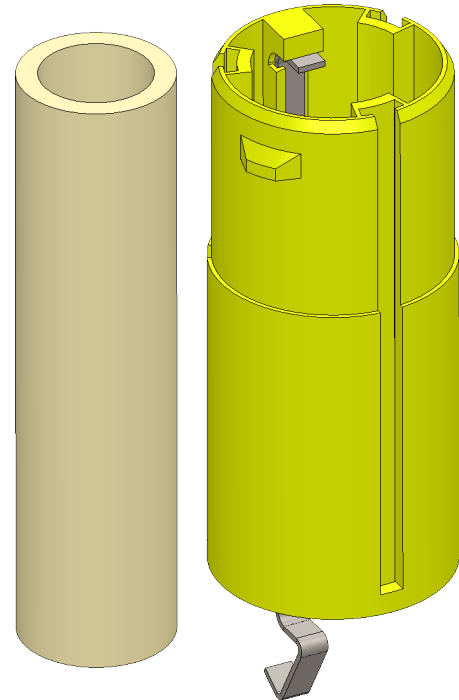

Fig. 8
Step 2. Click **Browse**, select **Engine Assembly** and click **Open**. Position Engine Hook along side Can, **Fig. 8**.